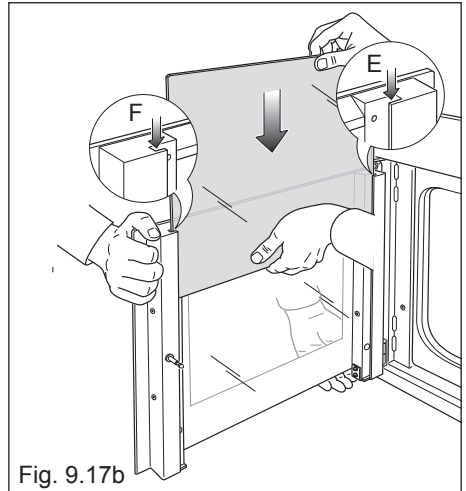
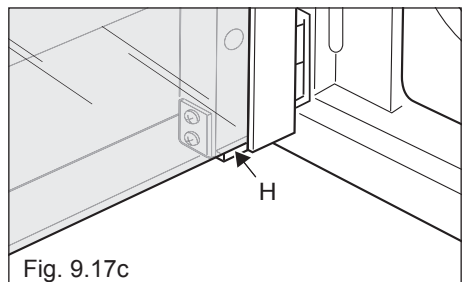

Fig. 9.17b
Fig. 9.17c
- Whilst one person holds the door still, a second person should insert the inner pane in the left "E" and right "F" side guides (fig. 9.17b) and gently let it slide up to the retainers "H" (fig. 9.17c). Forceful replacement of the door glass may lead to damage of the door hinges.